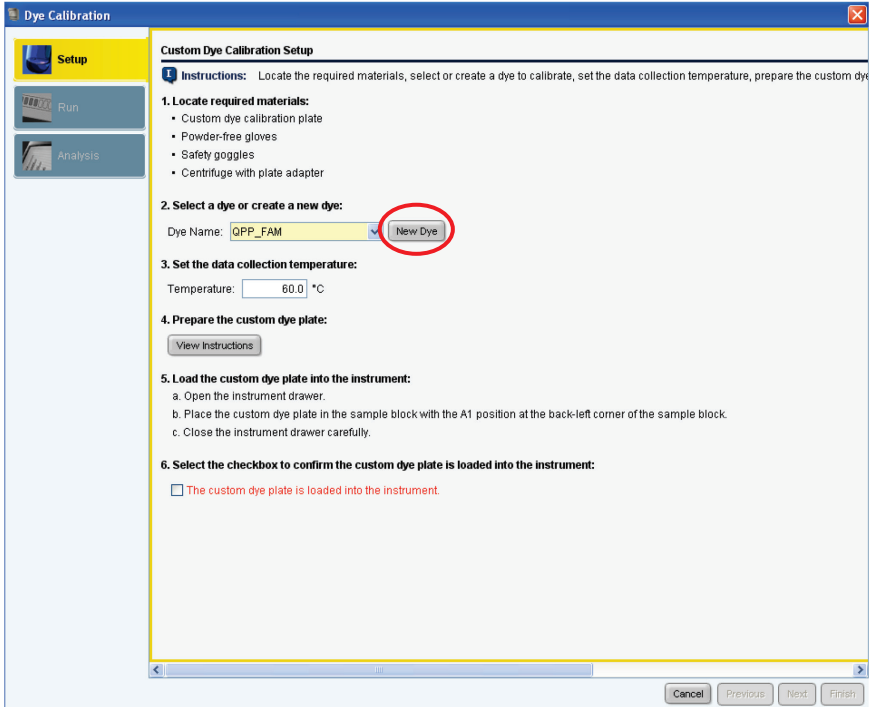

Figure 16. Selecting New Dye calibration.
14. Select **New Dye** in the **Dye Calibration** window (Figure 16).